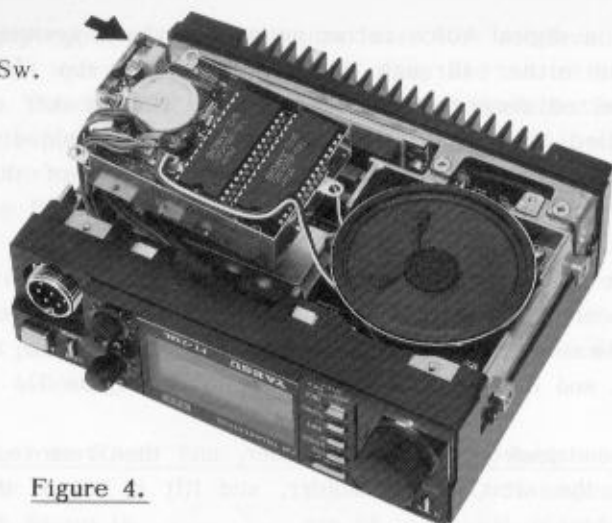

Figure 4.
- (4) Connect the 7-pin plug from the DVS-1 to 7-pin jack J2004 on the inside of the front panel (the brown wire should be nearest the center).
- (5) Connect the 3-pin plug from the DVS-1 to jack J1003 in the right front corner of the speaker compartment.
- (6) Making sure that no wires are pinched, set the DVS-1 in place, routing the speaker wires out under the back of the DVS-1. Install the two supplied screws through the tabs in the DVS-1: one in the left front corner of the chassis, and one in the rear.
- (7) Set the Voice Memory Backup switch in the left rear corner of the DVS-1 (Figure 4) to the ON position (toward the rear).
- (8) If also installing the FTS-12, proceed to step 2 of the FTS-12 Installation. Otherwise, do step 5 of the FTS-12 Installation.